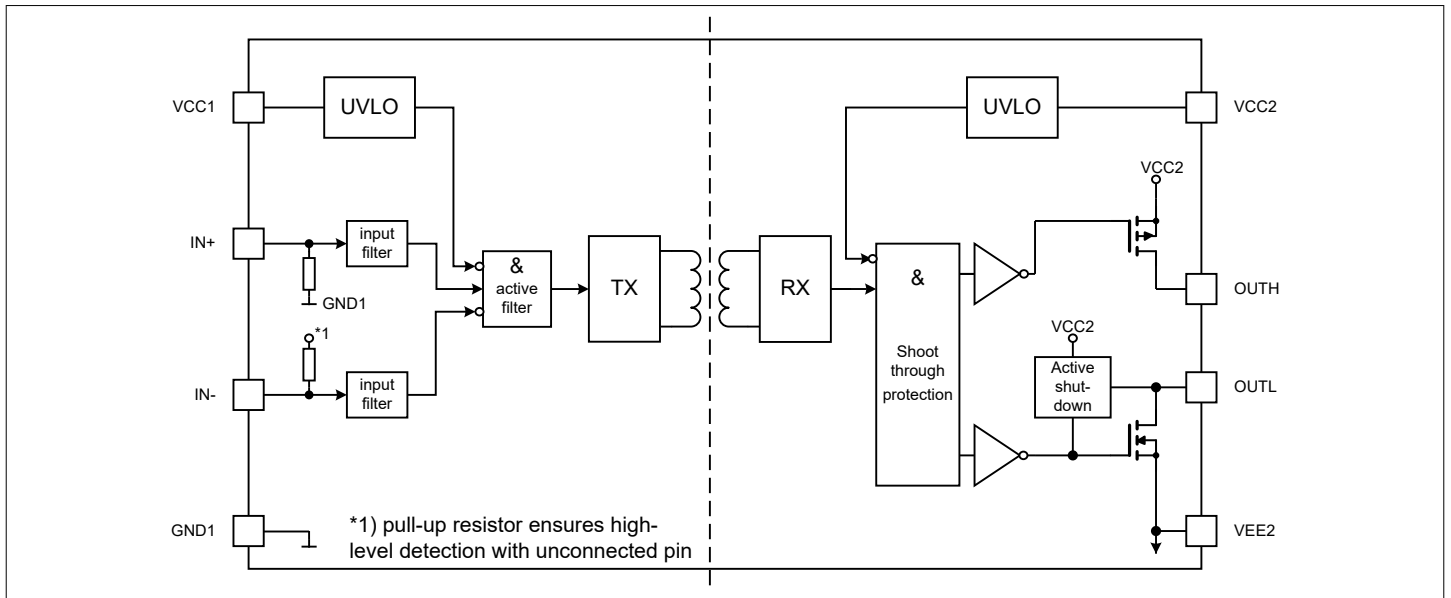

Figure 2 Block diagram
- **IN+:** Non-inverted control signal for driver output. An internal filter provides robustness against noise at *IN+*. If left open, an internal weak pull-down resistor pulls this pin to a low state, as shown in Figure 2.
- **IN-:** Inverted control signal for driver output. An internal filter provides robustness against noise at *IN-*. If left open, an internal weak pull-up resistor pulls this pin to a high state, as shown in Figure 2.